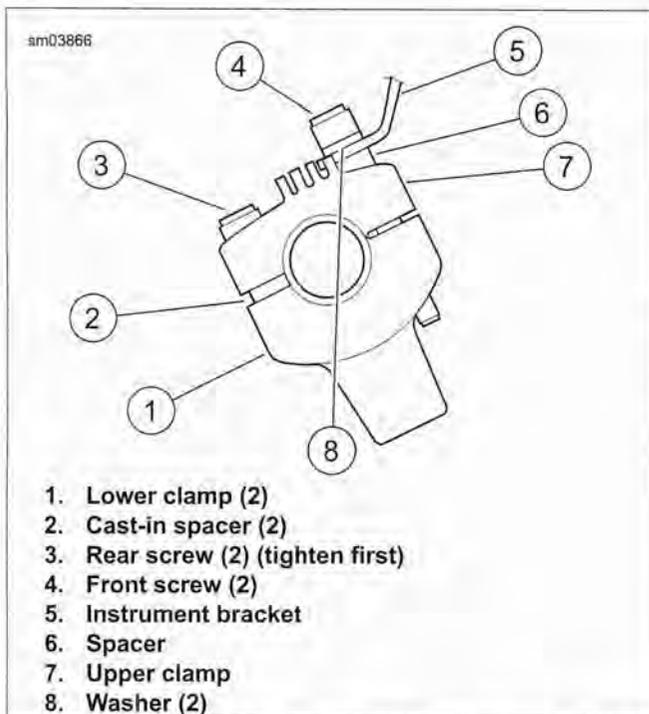
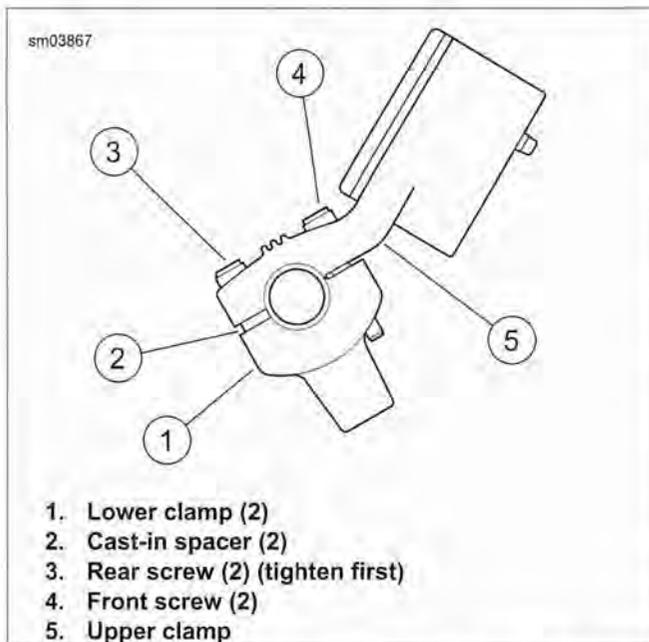

Figure 2-192. Handlebar Clamp: XL Models with Bolt-On Instrument Bracket
Figure 2-193. Handlebar Riser: XL 1200L/XL 1200N
- a. See Figure 2-192. Place spacers (6) over two front mounting holes of upper handlebar clamp.
- b. Position instrument bracket (5) over two front holes of upper handlebar clamp and install two screws (4) and washers (8).
5. See Figure 2-193. Adjust handlebar to desired position. Tighten rear screws first, to 12-18 ft-lbs (16.3-24.4 Nm). Then tighten front screws to 12-18 ft-lbs (16.3-24.4 Nm).